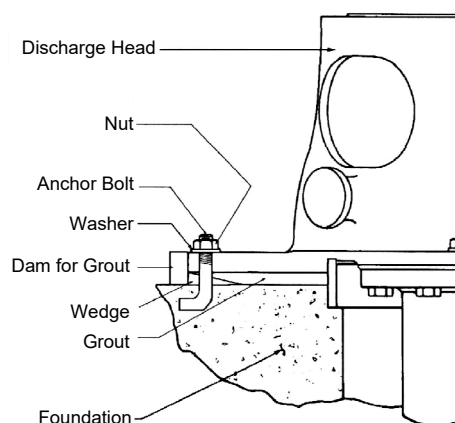

Fig. 5 Typical foundation without base plate
1. Build a dam on the foundation, enclosing an area around the discharge head that includes all alignment wedges. The top of the dam should be approximately 1/2 inch (12 mm) above the bottom of the discharge head base. See fig. 5 and